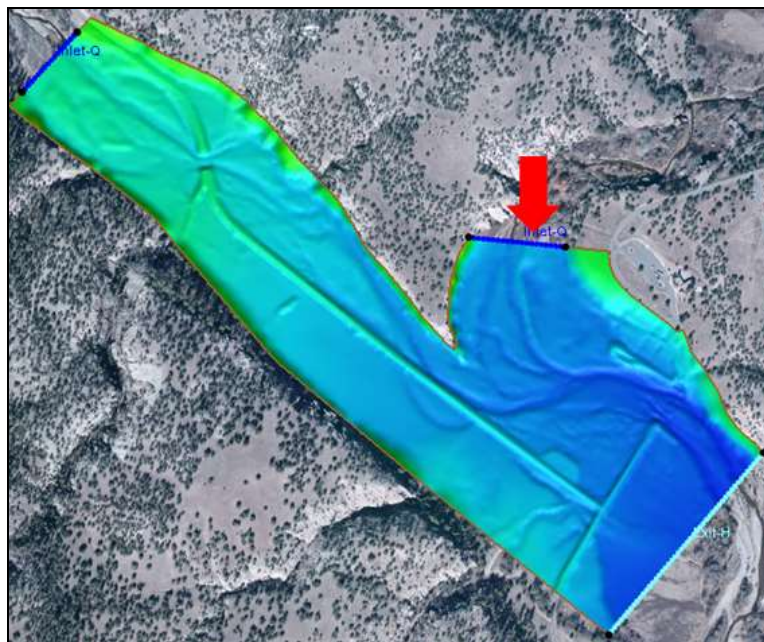

Figure 2 Inflow boundary condition
3. Use the **Select Feature Arc** tool and double-click on the Inlet-Q inflow boundary shown in Figure 2. This will open the *SRH-2D Assign BC* dialog.